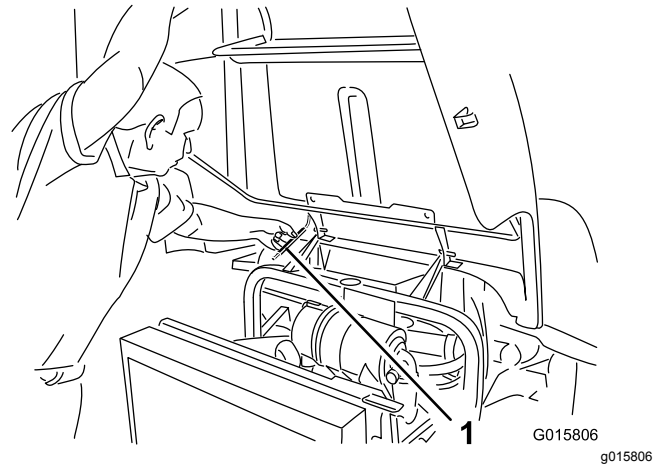

Figure 47
2. Raise the hood high enough to position the prop rod behind the frame tube (Figure 47).